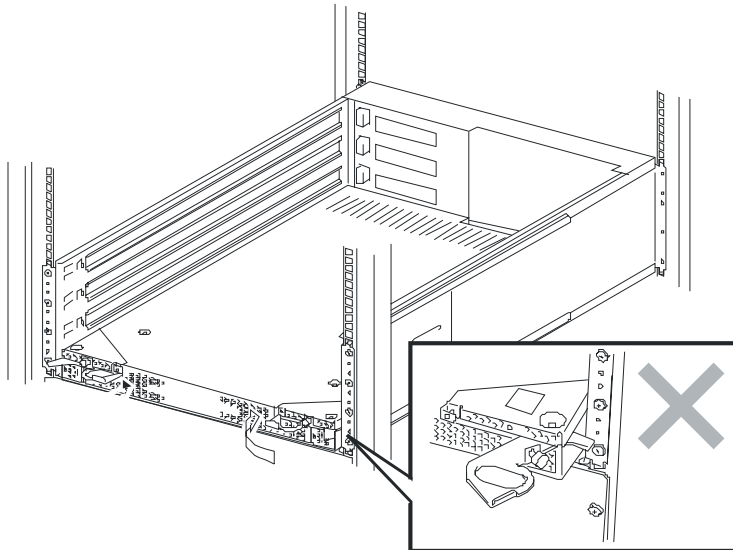

Figure 4-24. Locking the PCI Module in the Chassis.
4. Push the locking handles all the way their locked position. See Figure 4-24.